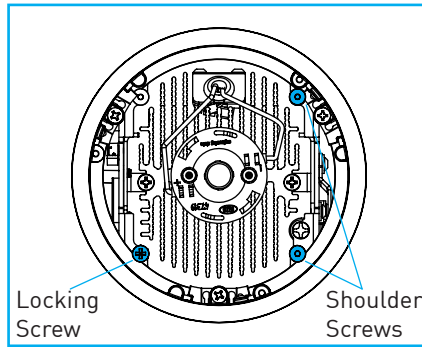

Fig.27
- Remove adjustment mechanism by loosening locking screw and removing two shoulder screws "Fig.27".